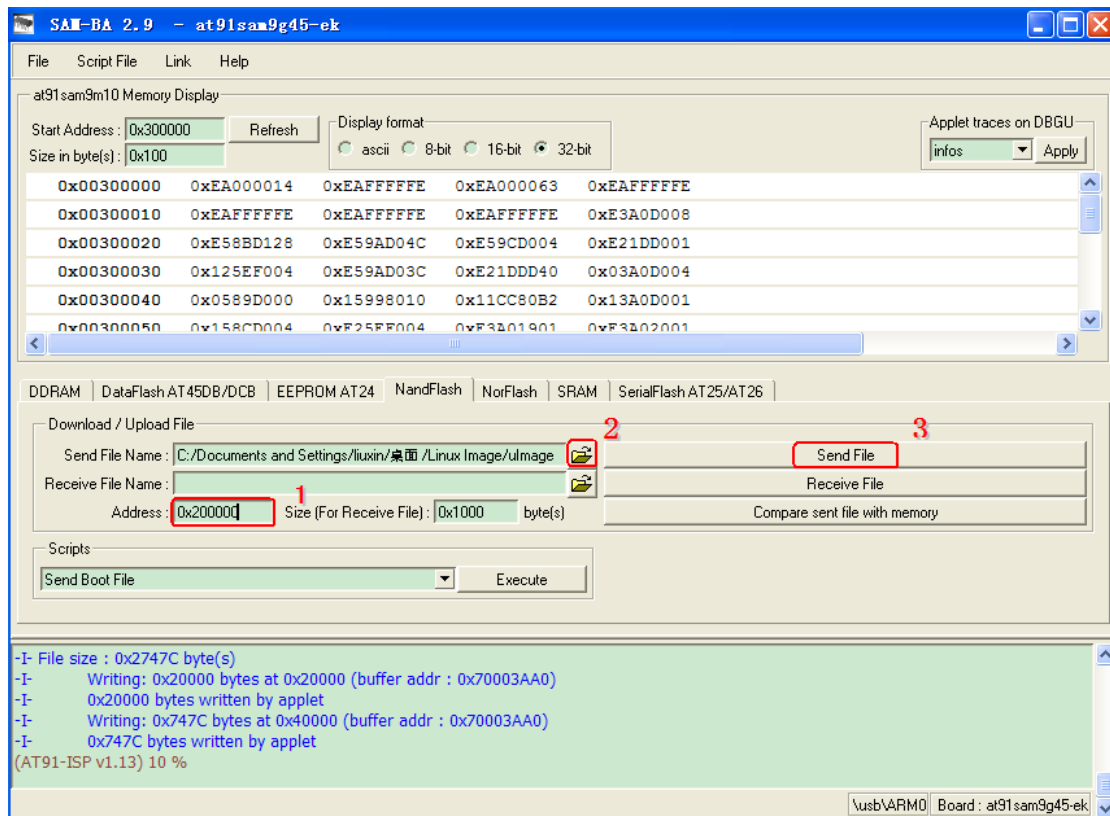

Figure 4-10
(7) Download Linux kernel ulmage to 0x200000. Refer to figure 4-10: